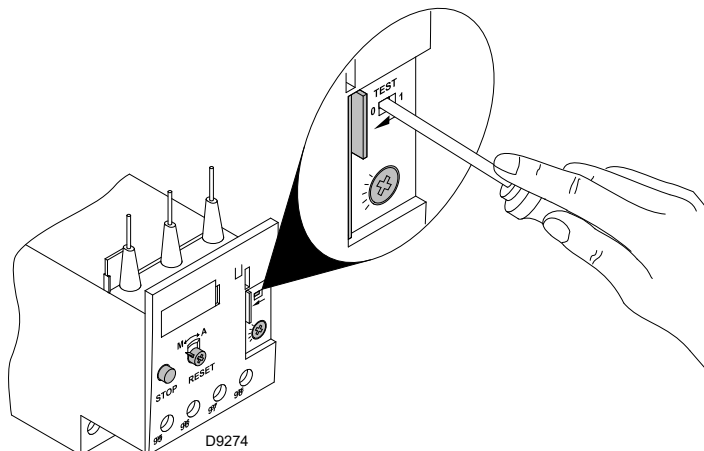

Fig. 35
- To test the thermal relay, insert a screwdriver in the window **"TEST"** (Fig. 35) and move it in the sense of the arrow (towards right).